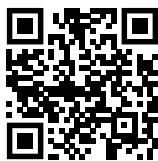

Fig. 133
- ▶ Aprire la Liebherr SmartMonitoring Dashboard. (vedere Fig. 133)